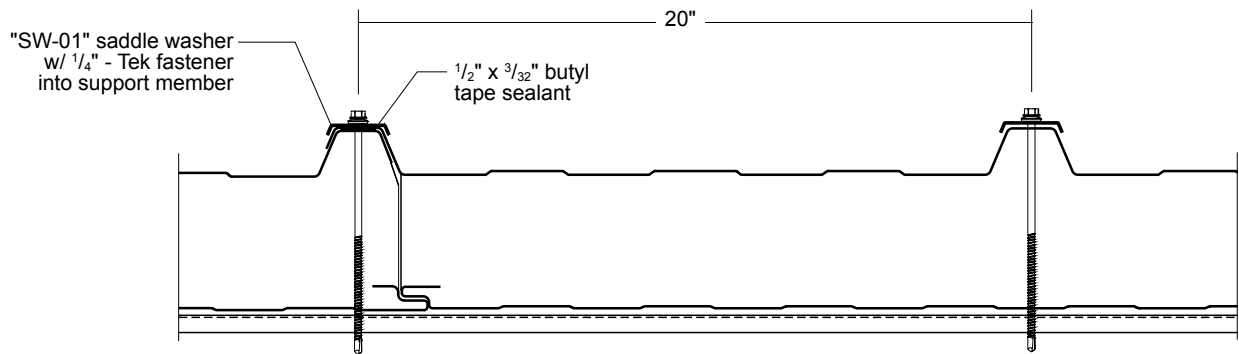

Figure 13
20.10 The fastening pattern will depend on the panel thickness, span, substrate, and design loads. Consult your all weather insulated panels representative or the factory for allowable panel and fastener design loads. If (2) saddle washer assemblies are required, always put the second saddle washer assembly next to the overlapping hi rib (see figure 13, below).